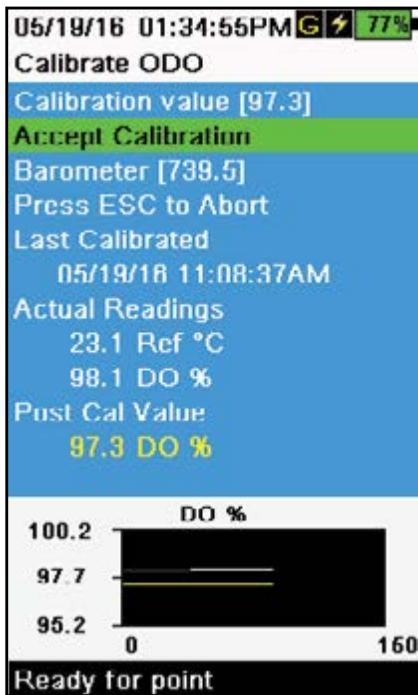

Figure 34 Calibrate DO%
6. Observe the actual measurement readings for stability (white line on graph shows no significant change for 40 seconds), then select **Accept Calibration** (Figure 34). "Calibration successful!" will be displayed in the message area.